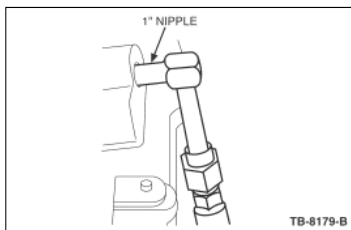

Figure 2 - Article 05-21-8
2. Install a pressure gauge into the PCC port, using a 1" long nipple and a 90 degree fitting (Figure 2).